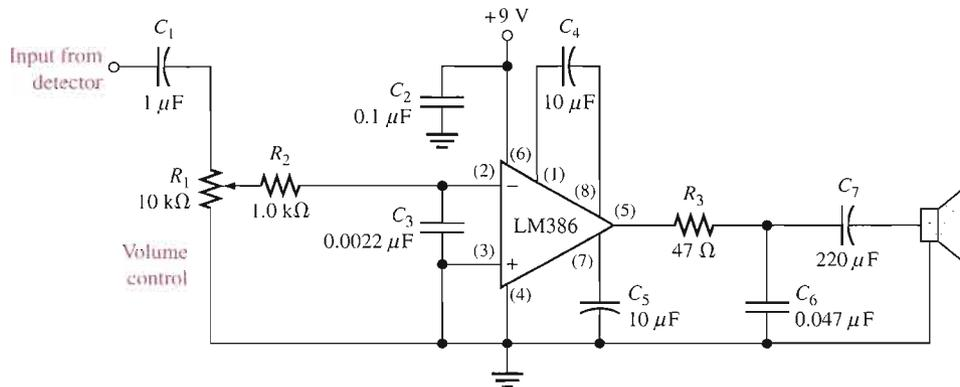

FIGURE 17–39
The **mixer** is basically a frequency converter because it changes the frequency of a signal to another value. The mixer in a receiver system takes the incoming modulated RF signal (which is sometimes amplified by an RF amplifier and sometimes not) along with the signal from the local oscillator and produces a modulated signal with a frequency equal to the difference of its two input frequencies (RF and LO). The mixer also produces a frequency equal to the sum of the input frequencies. The mixer function is illustrated in Figure 17–28.
◀ **FIGURE 17–28**
In the case of receiver applications, the mixer must produce an output that has a frequency component equal to the difference of its input frequencies. From the mathematical analysis in Section 17–3, you can see that if two sinusoidal signals are multiplied, the product contains the difference frequency and the sum frequency. Thus, the mixer is actually a linear multiplier as indicated in Figure 17–29.
◀ **FIGURE 17–29**
In the receiver system, both the sum and difference frequencies from the mixer are applied to the IF (intermediate frequency) amplifier. The IF amplifier is actually a tuned amplifier that is designed to respond to the difference frequency while rejecting the sum frequency. You can think of the IF amplifier section of a receiver as a band-pass filter plus an amplifier because it uses resonant circuits to provide the frequency selectivity. This is illustrated in Figure 17–30.
► **FIGURE 17–30**
Determine the output frequency of the IF amplifier for the conditions shown in Figure 17–31.
► **FIGURE 17–31**
A typical application of the LM386 as a power amplifier in a radio receiver is shown in Figure 17–39. Here the detected AM signal is fed to the inverting input through the volume control potentiometer,  $R_1$ , and resistor  $R_2$ .  $C_1$  is the input coupling capacitor and  $C_2$  is the power supply decoupling capacitor.  $R_2$  and  $C_3$  filter out any residual RF or IF signal that may be on the output of the detector.  $R_3$  and  $C_6$  provide additional filtering before the audio signal is applied to the speaker through the coupling capacitor  $C_7$ .
Figure 17–40 illustrates both a square wave and a sine wave modulating the frequency of a carrier. The carrier frequency is highest when the modulating signal is at its maximum positive amplitude and is lowest when the modulating signal is at its maximum negative amplitude.
▲ **FIGURE 17–40**
Frequency modulation is achieved by varying the frequency of an oscillator with the modulating signal. A voltage-controlled oscillator (VCO) is typically used for this purpose, as illustrated in Figure 17–41.
▶ **FIGURE 17–41**
Generally, a variable-reactance type of voltage-controlled oscillator is used in FM applications. The variable-reactance VCO uses the varactor diode as a voltage-variable capacitance, as illustrated in Figure 17–42, where the capacitance is varied with the modulating voltage,  $V_m$ .
▶ **FIGURE 17–42**
Capacitance decreases as reverse voltage (control voltage) increases. Therefore, an increase in control voltage to the VCO causes an increase in frequency and vice versa. Basic VCO operation is illustrated in Figure 17–45. The graph in part (b) shows that at the nominal control voltage,  $V_{c(nom)}$ , the oscillator is running at its nominal or free-running frequency,  $f_{o(nom)}$ . An increase in  $V_c$  above the nominal value forces the oscillator frequency to increase, and a decrease in  $V_c$  below the nominal value forces the oscillator frequency to decrease. There are, of course, limits on the operation as indicated by the minimum and maximum points. The transfer function or conversion gain,  $K$ , of the VCO is normally expressed as a certain frequency deviation per unit change in control voltage.
► FIGURE 17–45